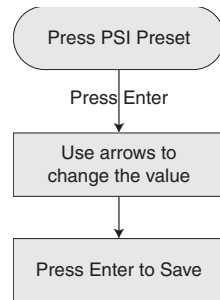

Figure 14 - Change PSI Setpoint using PSI Preset.
2. Via the *PSI Preset* (Shown in Figure 14).